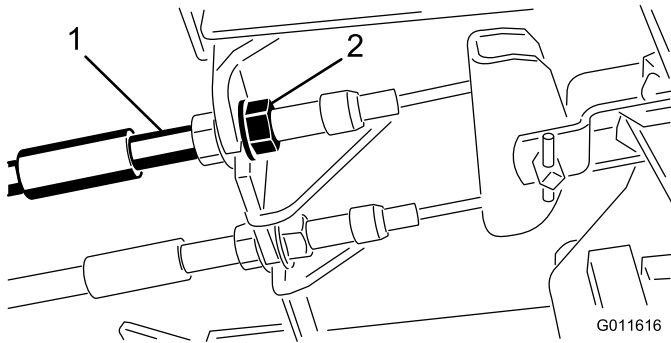

Figure 47
1. To reduce free travel of the brake pedals, tighten the brakes by loosening the front nut on the threaded end of the brake cable (Figure 47).